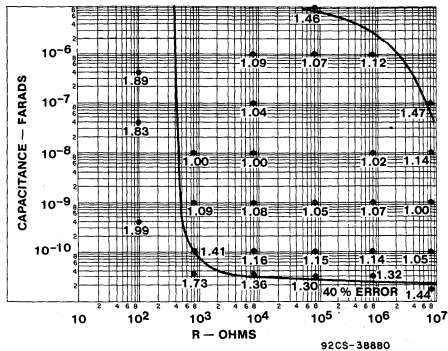

Fig. 5 - Area of theoretical equation validity. Points are ratios of measured to calculated T.
Fig. 5 identifies the area of validity of R and C for equations (1) and (3). Measurements were made with the time constant as a parameter. The points on the chart are ratios of measured to calculated time period. The design guidelines used to keep the ratio of measured T to calculated T close to one, as shown in Fig. 5, follow.